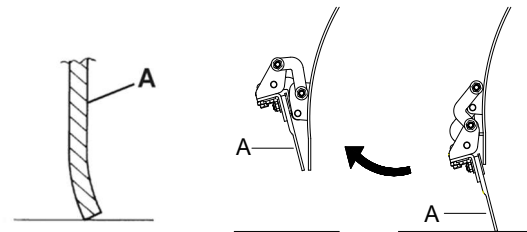

Figure 36
- The front blade (A, Figure 36) slightly touches the ground.
12. Press the flap pedal and check that the front blade (A, Figure 36) is lifted; then release the pedal and check that the blade does not remain in an intermediate position but returns to its initial position. If necessary, for the front blade control cable adjustment or replacement, refer to the Service Manual.